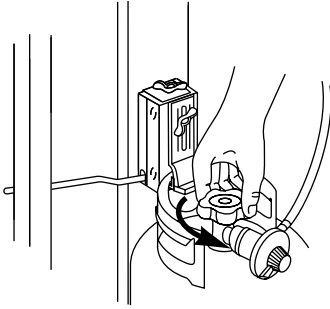

Figure 10
- e) Open the tank valve. Figure 10.